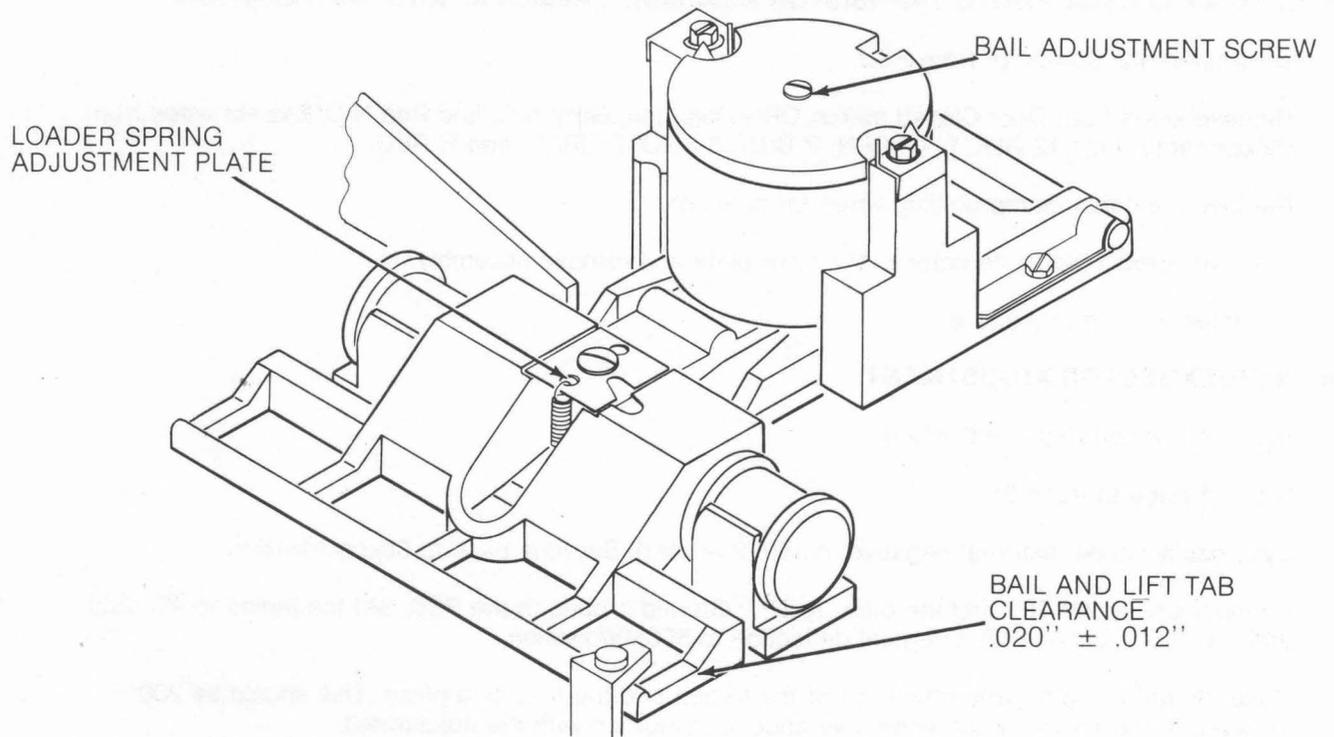

FIGURE 36. HEAD LOAD MECHANISM ADJUSTMENT
- b. Select the drive and insure the head is loading. With the head loaded a clearance of $.008'' + .005'' - .000''$ should be obtained between the bail on the head load solenoid and the lift tab on the head arm (see Figure 36). To adjust this clearance turn the screw located on top of the armature (see Figure 36). Clockwise will decrease the clearance and counter-clockwise will increase the clearance.
- (3) If the read signal begins sooner than 35 msec loosen screw holding the loader spring adjustment plate. Slide plate towards the solenoid body (see Figure 36). If the read signal begins after 50 msec, slide the plate away from the solenoid body.